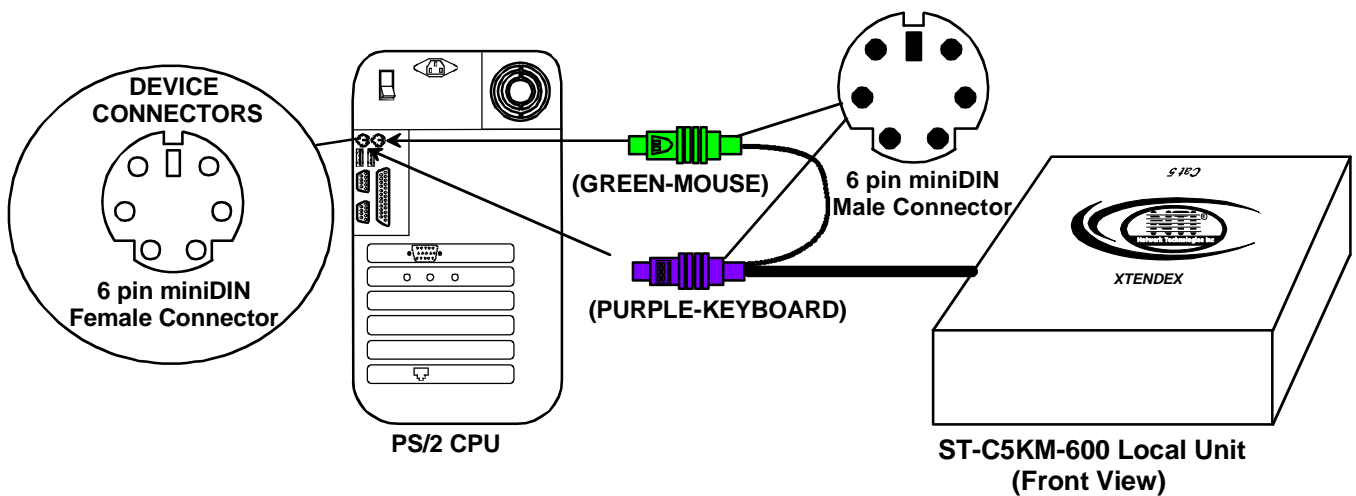

Figure 7- Connect Local Unit with only keyboard and mouse support
1. Plug the cables of the Local Unit into the back of the CPU. (See Figure 7)